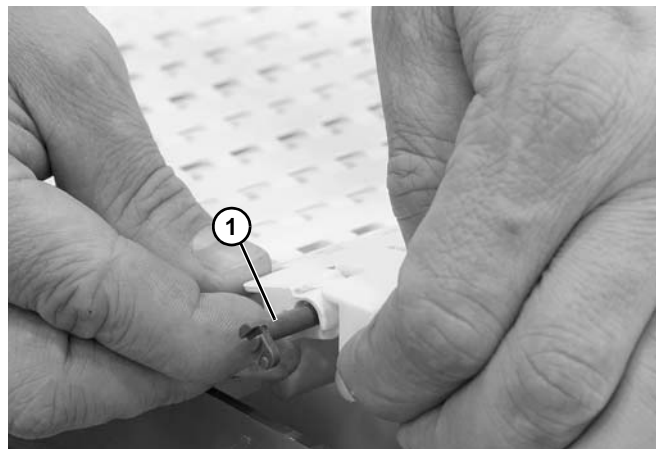

Figure 33
4. Remove the belt rod (**Figure 33, item 1**).